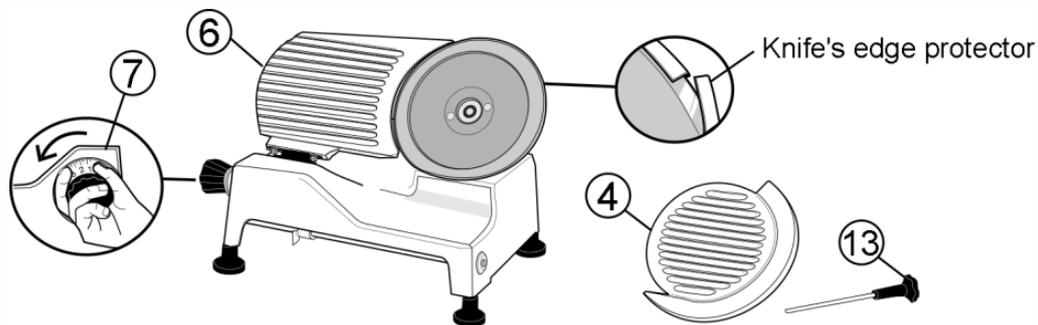

FIG 1. HOW TO REMOVE THE KNIFE'S EDGE PROTECTOR
- 1 Sharpener box (8)
C.- Take out the carriage assembly. Do the same with the Base unit Assy by lifting from the base (1), (exercise proper lifting method, preferably do this procedure with two persons).
E.- Remove the knife edge protector by following the next instructions (**See Fig. 1**):
- Rotate the slice adjusting knob (7) counter clockwise until it stops.
- Remove the knife guard plate (4) by loosening the knife guard knob (13).
- Once the knife edge protector is removed, Assemble again the knife guard plate (4) and assure it with the knife guard knob (13). Close the thickness gauge plate(6) by rotating the slice adjusting knob (7) clockwise fully.